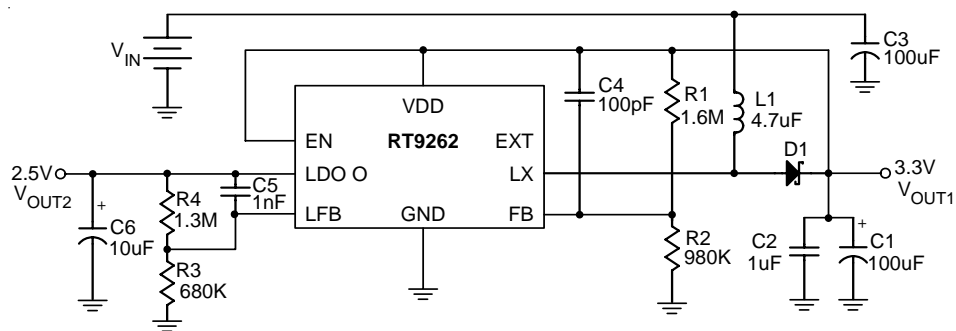
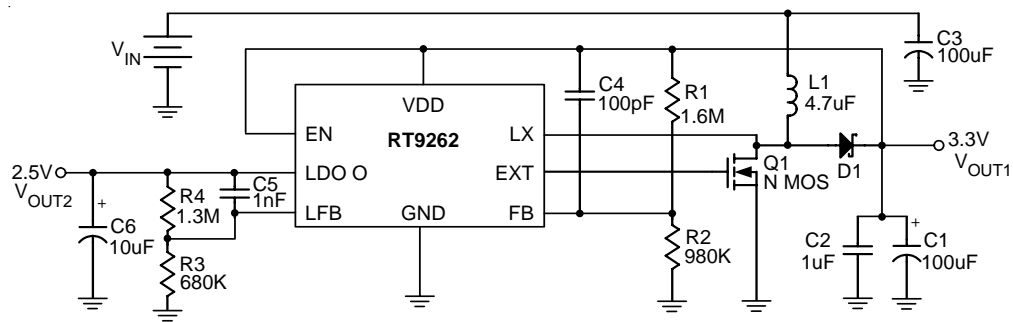

Figure 1. RT9262 Typical Application for Portable Instruments below 400mA
Figure 4. 0.4A ~ 2A Output Current Application
Referring to application circuits Figure 1 to Figure 5 the output voltage of the switching regulator (V_{OUT1}) can be set with Equation (1).
Referring to application circuits Figure 1 to Figure 5. The selection of R1, R2, R3, and R4 based on the trade-off between quiescent current consumption and interference immunity is stated below:
- Follow Equation (1) and Equation (2).
- A proper value of feed forward capacitor parallel with R1 (or R4) on Figure 1 to Figure 5 can improve the noise immunity of the feedback loops, especially in an improper layout. An empirical suggestion is around 100pF ~ 1nF for feedback resistors of MW, and 10nF ~ 0.1μF for feedback resistors of tens to hundreds kΩ.
- The following diagram is an example of 2-layer board layout for application circuits Figure 1 to Figure 4.